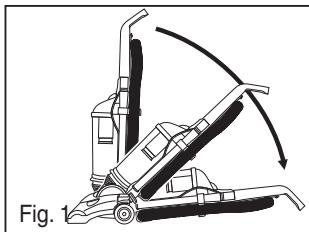

Fig. 1
- 1) Use handle release to lower handle flat onto floor (Fig. 1).
1) Remove hose from hose retainer. Flexing the hose will loosen any blockage (Fig 1).